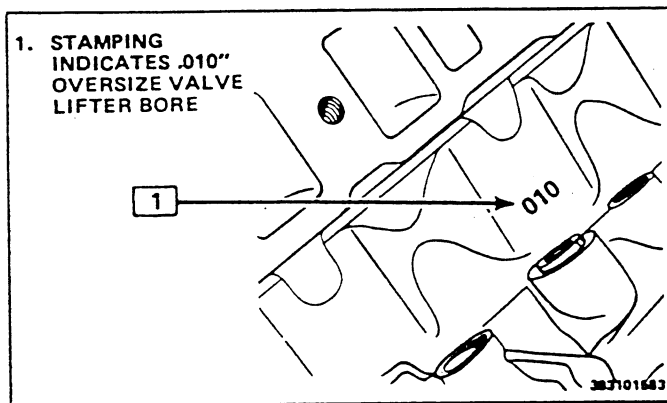

Fig. 20 Oversize Valve Lifter Bore Marking
- Some engines will have both standard and .010” oversize valve lifters. The indicator is a stamping “.010” on the side of the cylinder block, above the lifter bore that is oversize. (Fig. 20)